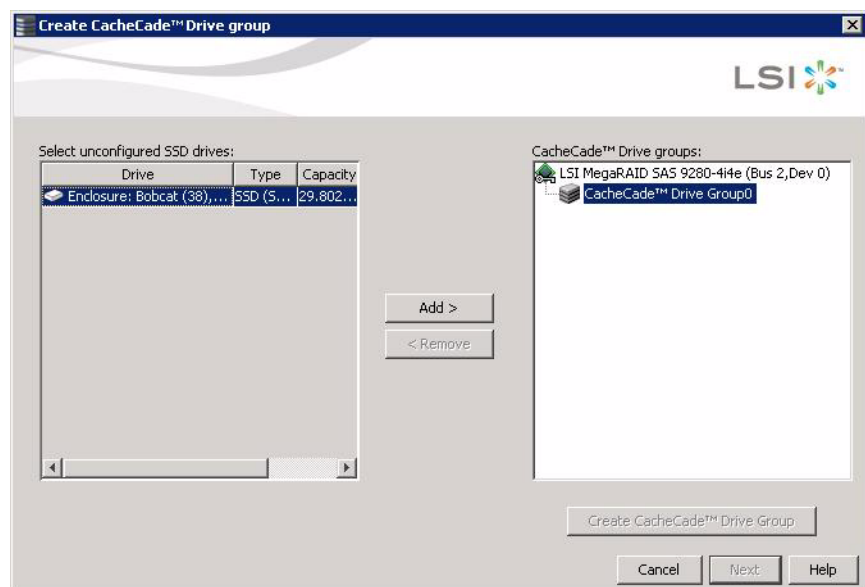

Figure 303: Create CacheCade™ Drive group Dialog
3. Click on unconfigured CacheCade - SSD Caching drives in the left frame to select the drives for the CacheCade drive group, as shown in Figure 303.